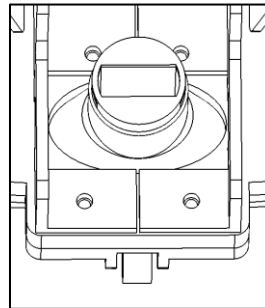

Fig. 3
4. Using the hose, clean the trap (Fig. 3) under a stream of running water. check that the trap is free of debris after cleaning.